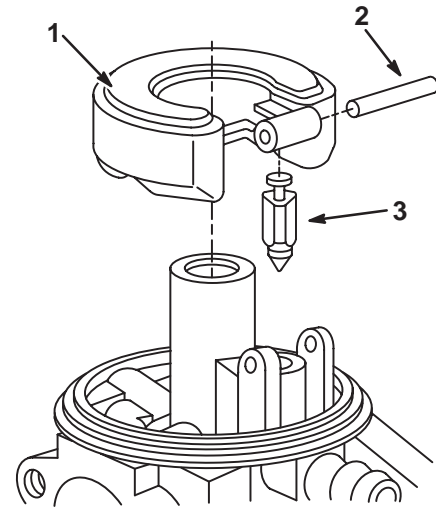

Fig. 24 – Removing Main Jet, Float Hinge Pin and Inlet Needle
3. Remove float hinge pin, float and inlet needle, Fig. 24.